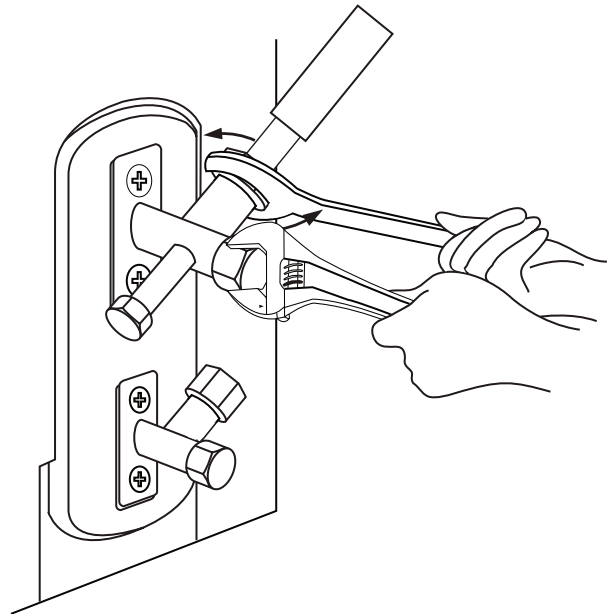

Fig. 5.10
4. Using a spanner, grip the body of the valve. Do not grip the nut that seals the service valve. (See **Fig. 5.10**)